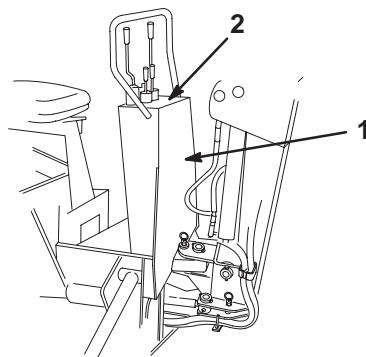

Figure 1
4. Remove the 6 locknuts securing the control access panel (Fig. 1) and remove the panel.
5. Remove the 4 screws securing the control cover plate (Fig. 1 and 2) and remove the plate.